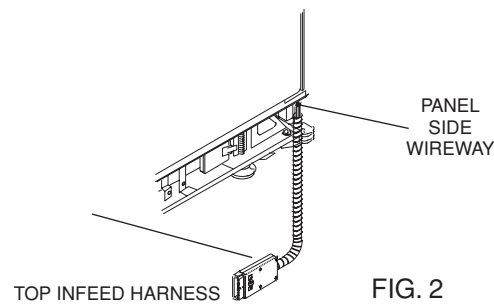

FIG. 2
5. Feed the top infeed harness conduit up the panel side wireway from the bottom of the panel (Figure 2). Guide the conduit through the top infeed trim cap when it reaches the top of the panel. In the raceway of the panel,